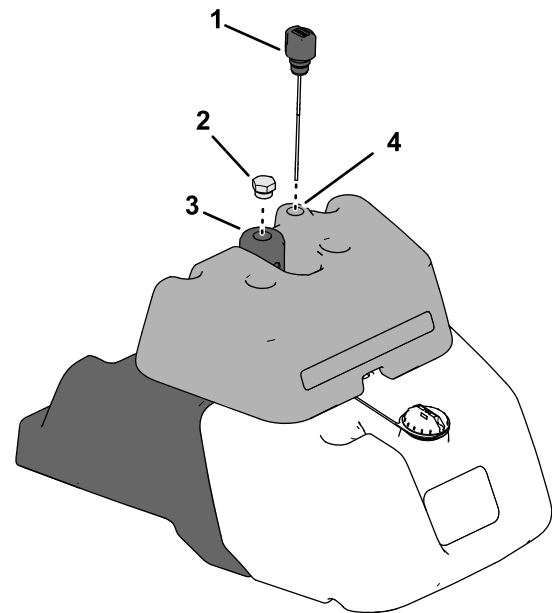

Figure 38
2. Check the hydraulic-fluid level by locating the dipstick for the hydraulic system at the top of the leak detector tank (Figure 38).